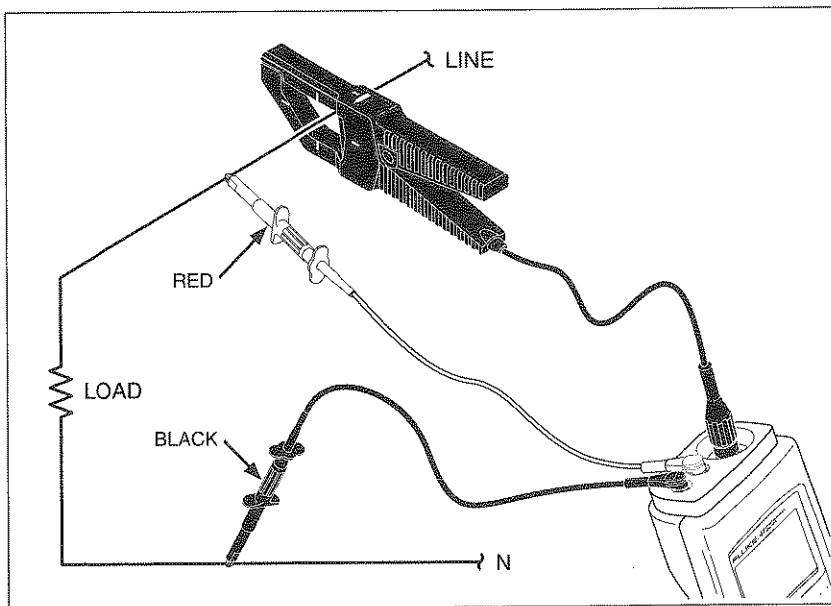

Figure 5. Measurement Connections (1st)
*Figure 5 shows suggested test lead and current probe usage.*